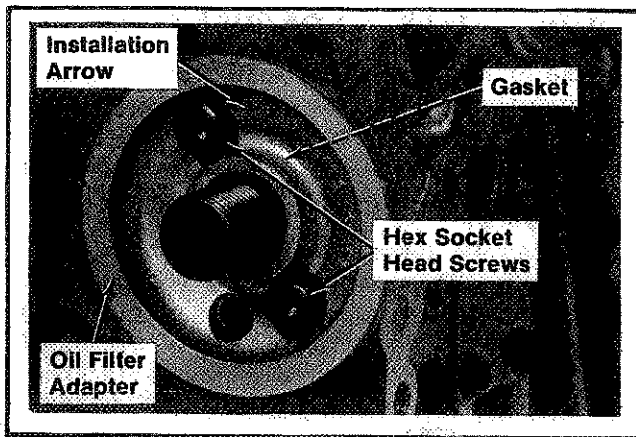

Figure 11-25. Installing Oil Filter Adapter.
1. Install the gasket, oil filter adapter, and hex socket head screws. Make sure the arrow on filter adapter is pointing to top of crankcase. Refer to Figure 11-25.